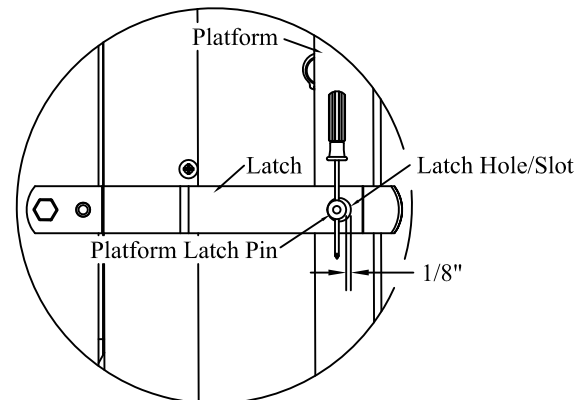

Figure 15: Platform latch pin position.
4. **Position** each latch pin in the latch hole/slot (Figure 15):